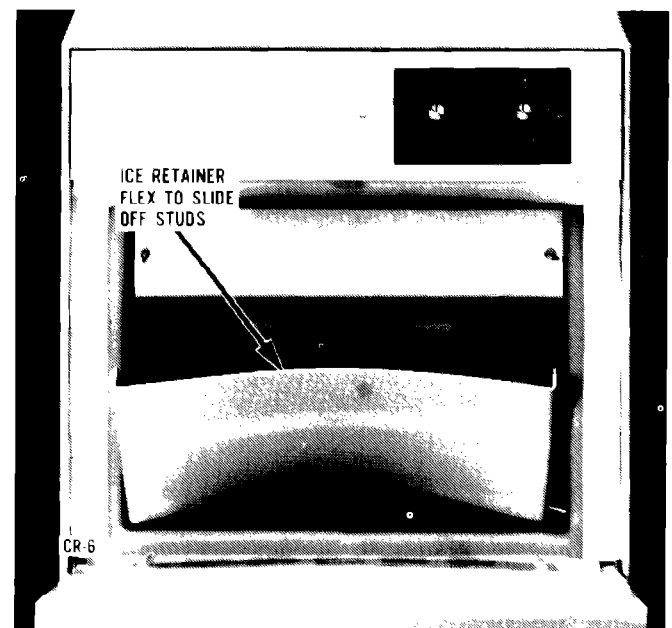

FIGURE 6
11. Remove ice retainer baffle, **Figure 6.**